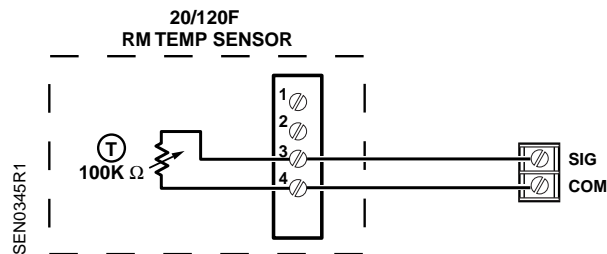

Figure 4. Wiring Example.
8. Unplug the terminal block from the back of the printed circuit board (PCB) and terminate the cable wires at the sensor terminal block. See Figure 4 for sensor terminal block.
13. Terminate the other end of the wires at the controller. See Figure 4.